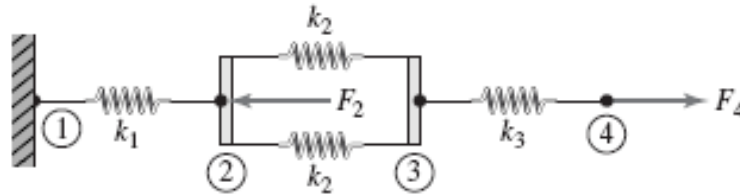

Figure P1.3
3. For the spring assembly shown in **Figure P1.3** solve for the displacements and the reaction force at node 1 if $k_1 = 4 \text{ kN/m}$, $k_2 = 6 \text{ kN/m}$, $k_3 = 3 \text{ kN/m}$, $F_2 = -30 \text{ N}$ and $F_4 = 50 \text{ N}$.